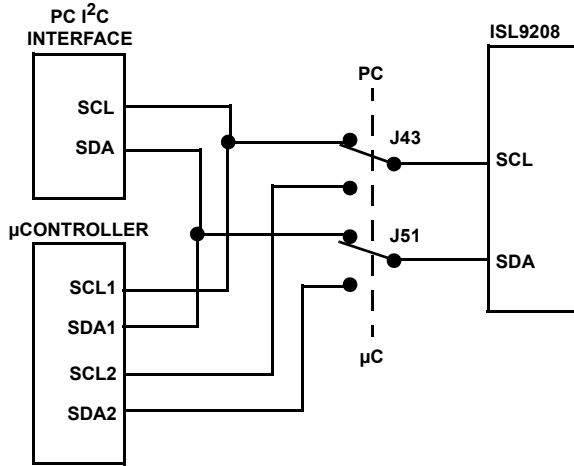

FIGURE 6. I2C JUMPERS: PC OR µC CONNECTION TO THE ISL9208
- For this test, make sure the SCL and SDA jumpers are set to the PC position. In this case, the PC has full control of the board and the microcontroller function is disabled. (See Figure 6). Except for the ISL9208 automatic response to overcurrent and over-temperature, all other actions of the board are manual and controlled through the GUI.